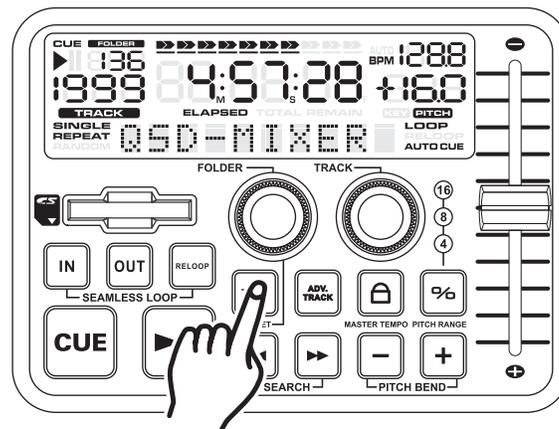

Figure 14
12. CHANGING THE TIME DISPLAY (46)\TIME BAR (40):
DURING NORMAL PLAYBACK, pressing the *TIME BUTTON* (32), will change the time display information (40 & 46) in the *LCD* (10) see figure 14. The following is a break down of the time settings and their definitions:
- 1) **ELAPSED** - This describes the time in the LCD (46) as the current TRACKS Elapsed running time.
- 2) **REMAIN** (48) - This describes the time in the LCD (46) as the current TRACKS remaining running time.